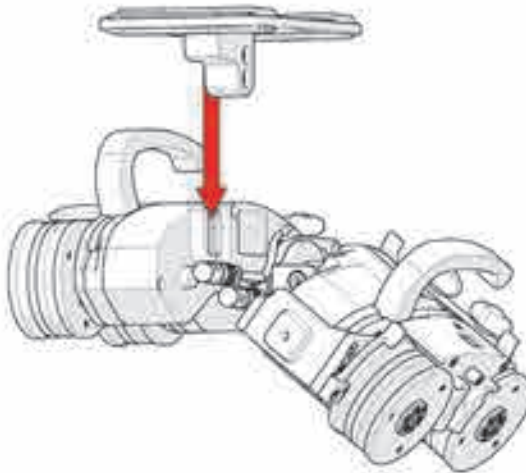

Figure 4-137 Pivot and insert dovetail nut
1. Allow the SteerROVER scanner to pivot exposing the inside of the left drive module, and then slide the dovetail nuts of the backpack into the accessory dovetail groove (see Figure 4-137 on page 194).